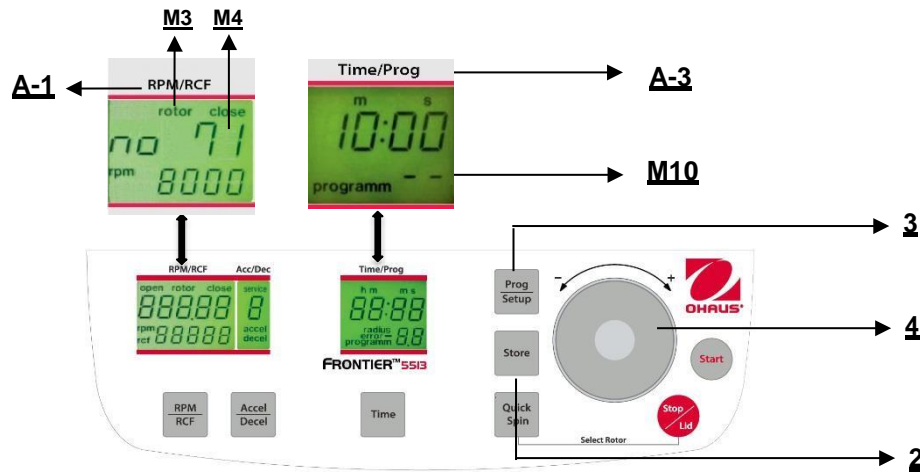

Figure. 22
To recall stored programs, press the key "Prog/Setup" (3) (refer to figure 22) while the lid is already closed. Inside the display "Time/Prog" (A-4), "programm -" (M10) appears. The desired program number can be pre-selected with the adjusting dial (4).
To leave the program mode just press the key **"Prog/Setup"** (3) (refer to figure 22). Then inside the display **"Time/Prog"** (A-3) the word **"programm"** (M10) appears.